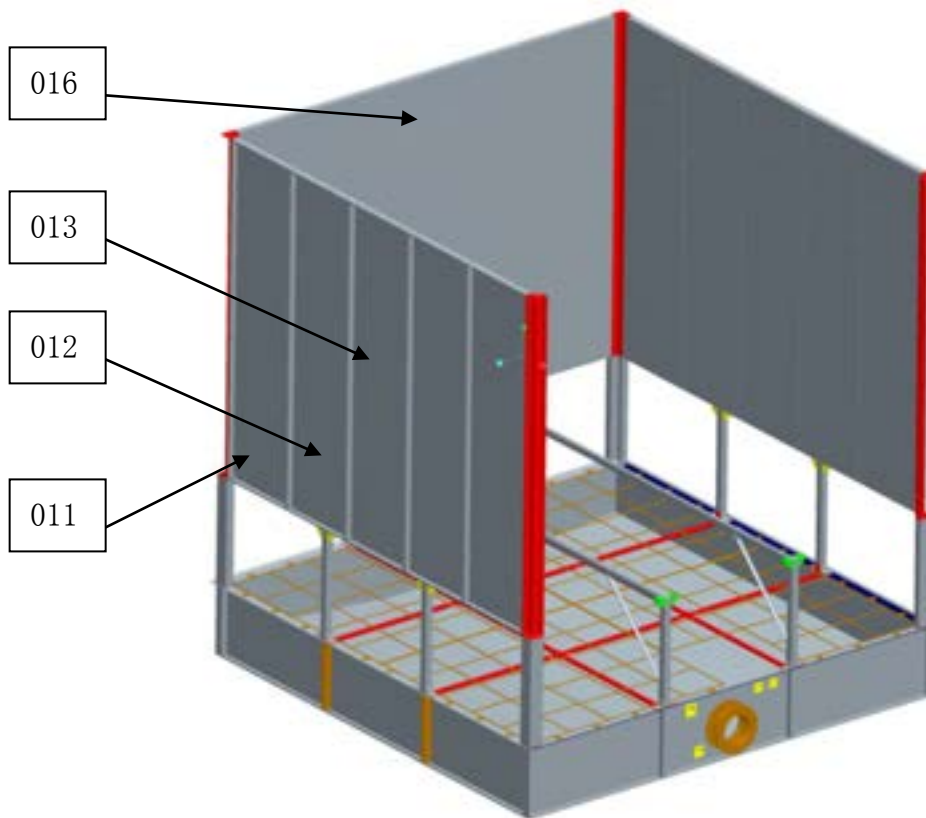

Figure 8
- 4) Install 3 side panels only at the beginning and left 1 side for installing infill.(see Figure 8)